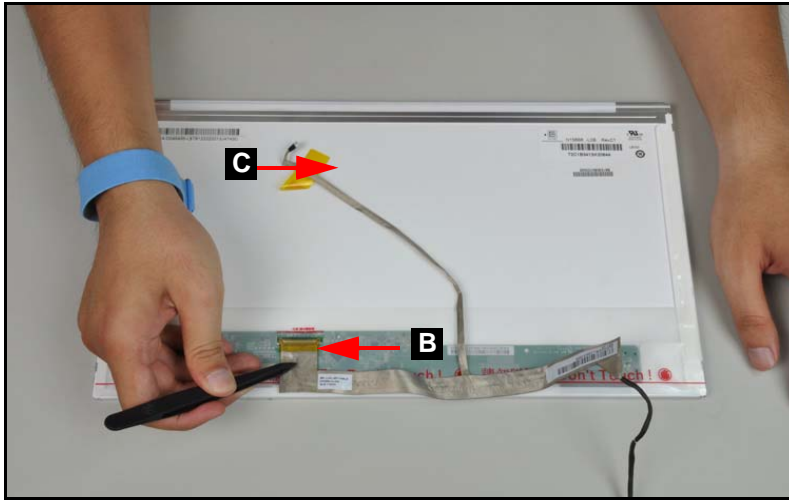

Figure 3-51. LVDS Cable Connector
2. Remove the bottom mylar and disconnect the LVDS cable from the LCD panel connector (B) (Figure 3-51).
1. Place the LVDS cable into the LCD panel connector (B) and secure the bottom mylar tape (C) (Figure 3-51).